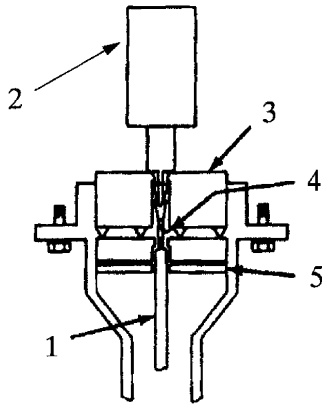

Figure 92 Push Tool into Terminal
14. In this step, push the tool into the terminal until the tool touches the connector (Figure 92), then slowly remove the tool from the terminal. A small resistance (6 to 10 oz.) must be felt. If some resistance is not felt, the terminal is expanded and must be replaced.